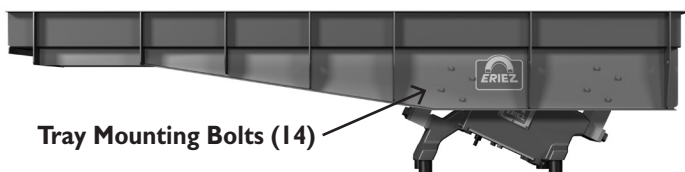

Figure 15: Mounting Tray 76C
6. Then move assembly to table & separate the armature from the armature adapter in Figure 15.